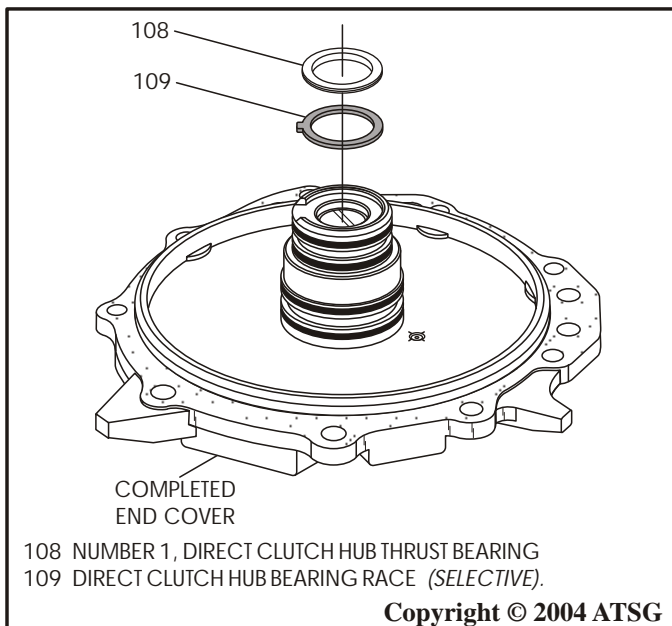

Figure 172
41. Install the direct clutch hub bearing race onto completed end cover, as shown in Figure 172.
42. Temporarily, install the direct clutch bearing with the needles facing down, as shown in Figure 172.